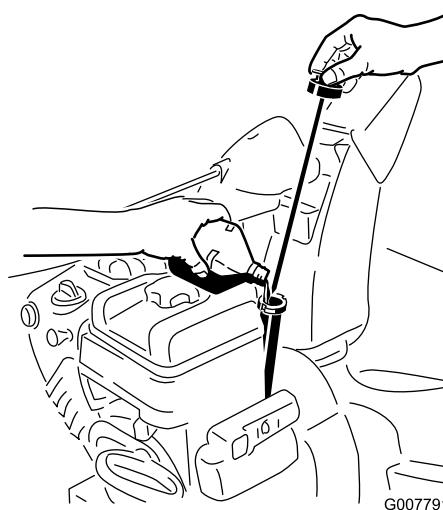

Figure 44
2. Remove the dipstick and check the oil level (Figure 44). If the oil level is below the Add mark on the dipstick, add oil. Refer to 6 Filling the Engine with Oil (page 11).